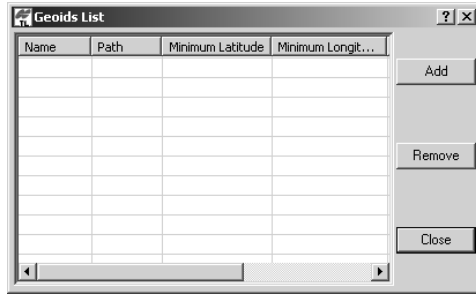

Figure 3-64. Geoids List Dialog Box
2. On the *Geoids List* dialog box, click **Add** (Figure 3-64).